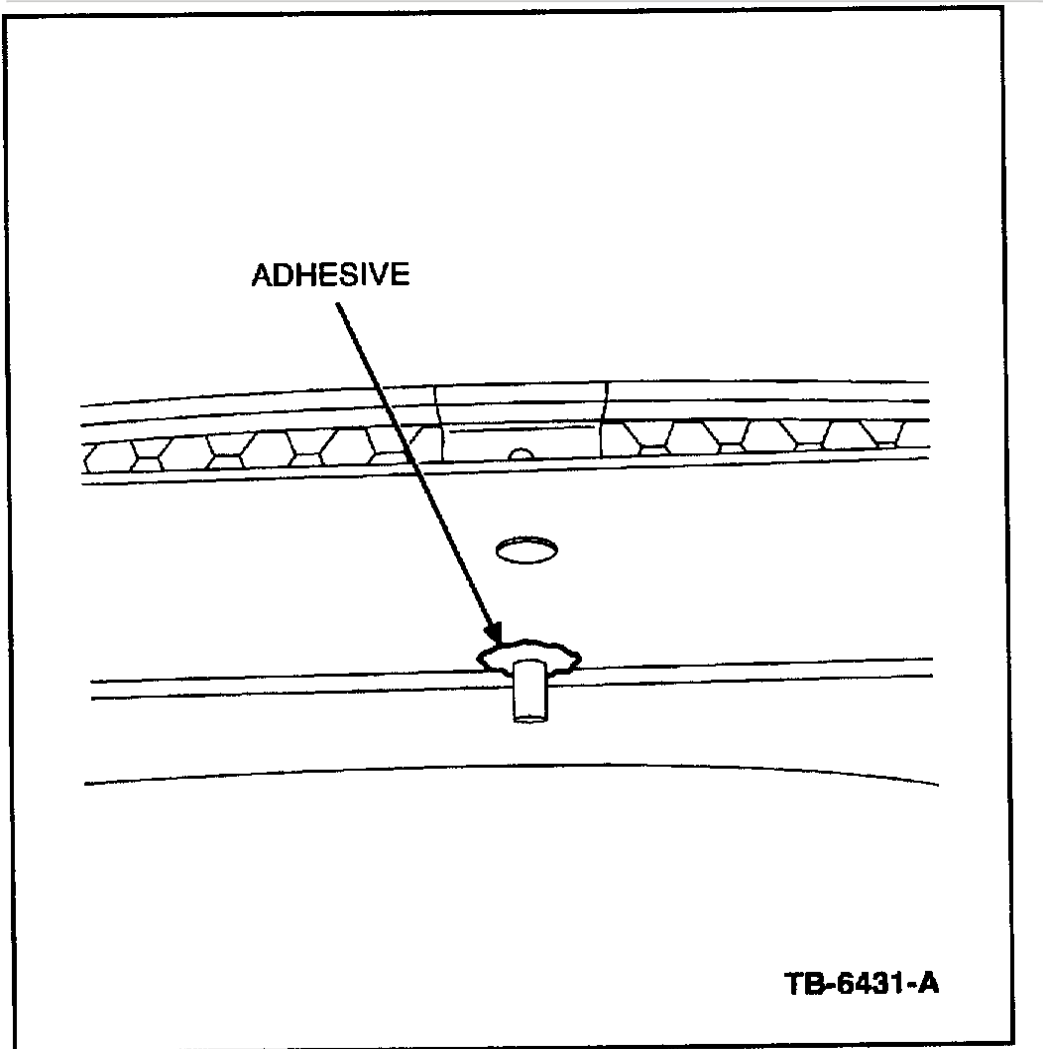

Figure 4
6. Apply adhesive to front and rear locator pins as show in Figures 4 and 5.
9. On underside of hood place adhesive around locator pins (Figure 4).